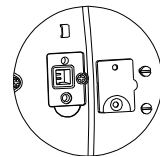

Figure 4-2. LFT pins.
2. Remove the Security Cover under the scale to access the two pins located in a slot (see figure 4-2). Short these pins (a slotted screwdriver may be used), while powering the scale **ON**. The scale will perform the start-up procedure, and then the display will show the current status [LFE OFF] (LFT OFF, unlocked) or [LFE ON] (LFT ON, locked); press the 'No' key to change this setting, or press the 'Yes' key to confirm it.